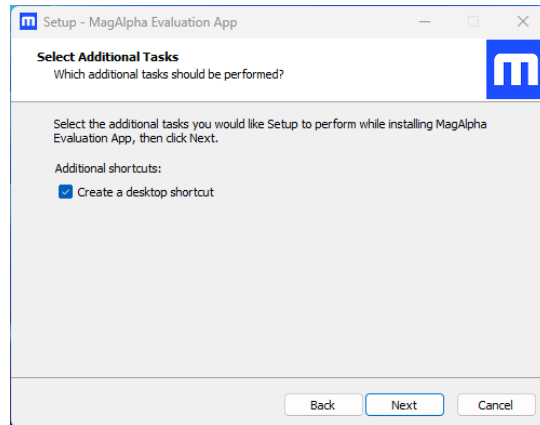

Figure 11: Installation Wizard (Additional Tasks)
4. Select whether to add a shortcut on your desktop (see Figure 11).